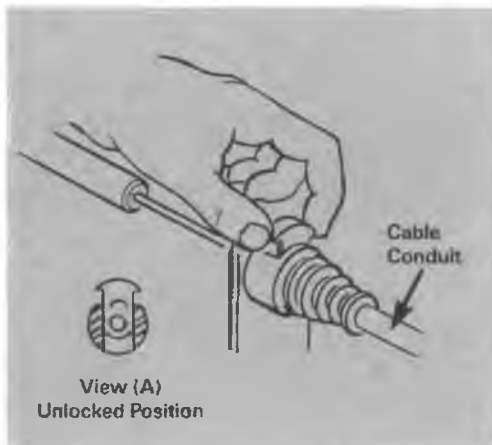

Figure 7-5A Cable Installation
A. Unlock cable conduit (Figure 7-5A).
- Step 2 Unlock cable conduit engine fitting (Figure 7-5A).